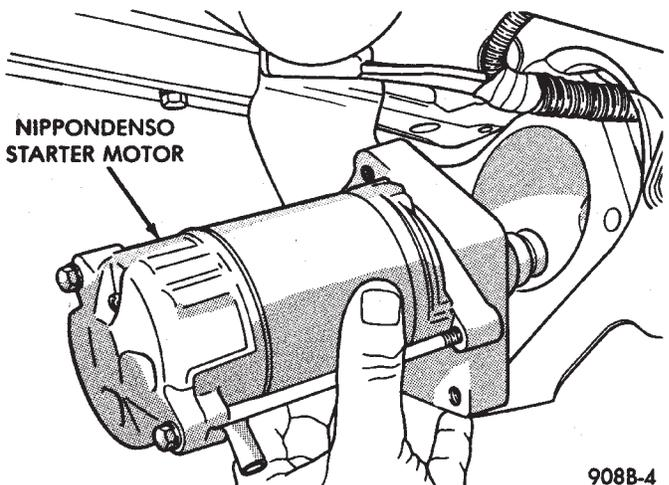
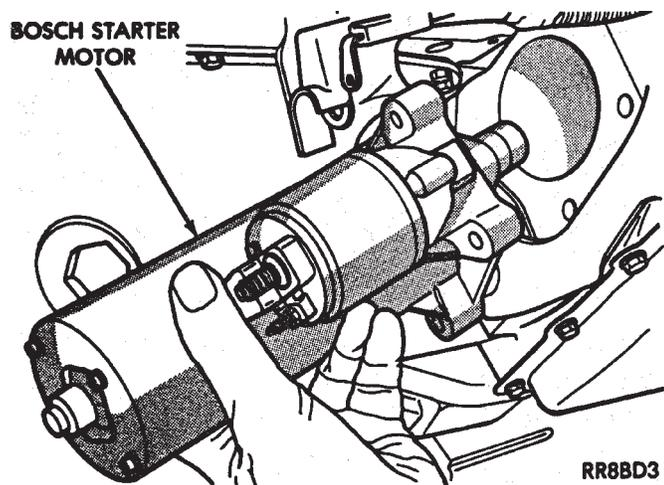

Fig. 9 Remove/Install Starter—Nippondenso—Typical
Fig. 8 Remove/Install Starter—Bosch—Typical
(5) Remove starter from vehicle (Bosch, Fig. 8) (Nippondenso, Fig. 9).